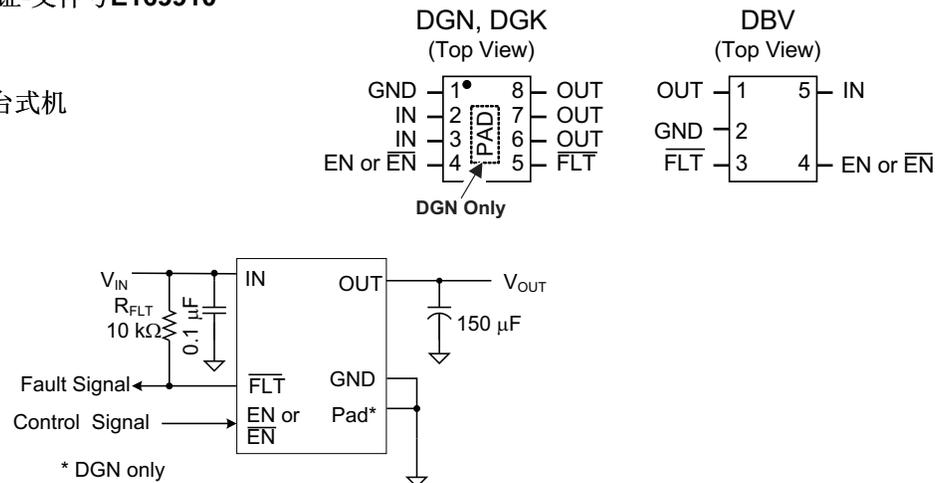

图 1. 典型应用
(1) Absolute maximum ratings apply over recommended junction temperature range.
(2) Voltages are with respect to GND unless otherwise noted.
(3) See the Input and Output Capacitance section.
(4) VOUT was surged on a pcb with input and output bypassing per Figure 1 (except input capacitor was 22 μF) with no device failures.